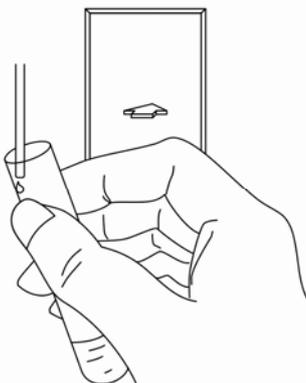

Figure 9-4 How to dispense diluent
3. Present a clean sample tube to the sample probe and make sure the tube is tilted towards the probe, as Figure 9-4 shows, to avoid spills and bubbles. Press the aspirate key to dispense 0.7ml of diluent (the dispensing volume is controlled by the analyzer) into the tube;